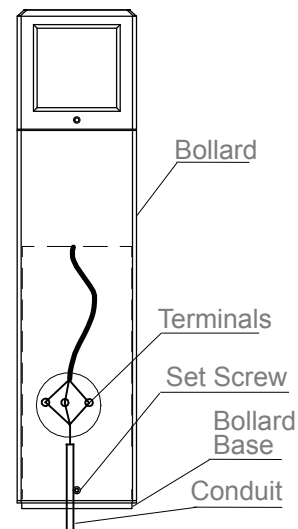

Figure3
4. Loosen the Set Screw (4) with an L-type Wrench (supplied), and remove the Bollard Base of the Bollard. See Figure 3.
7. Slide the Bollard over on Bollard Base. Be sure to check the LED position on the Bollard. See Figure 3.
8. Replace the Set Screws (4) to secure the Bollard to the Bollard Base. See Figure 3.